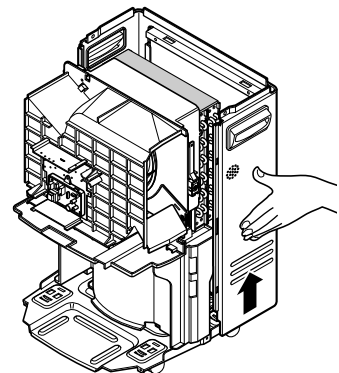

Figure 12
5. Lift up the cabinet a little from the base pan and separate it by pulling out backward. (See Figure 12)